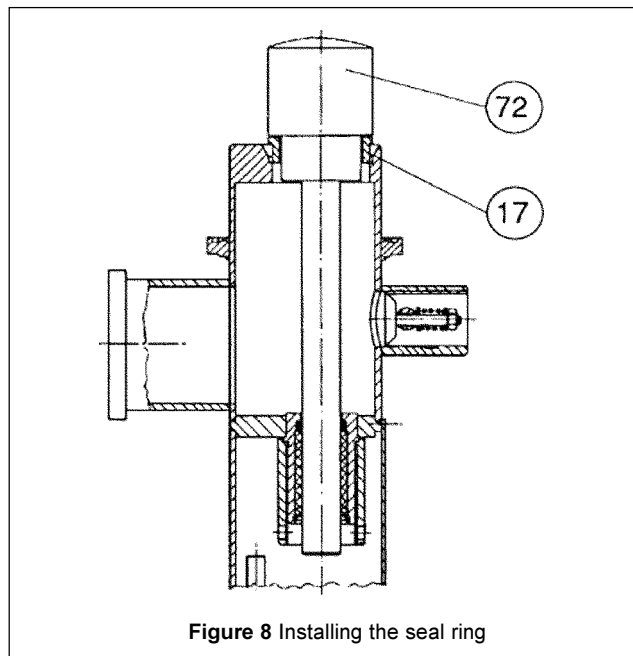

Figure 8 Installing the seal ring
### 4.3. Installing the seal ring (17, Fig. 8)
- Place the seal ring (17) with the locking ring in a freezer; the seal ring should preferably be attached to the mounting tool. Allow to cool to at least -10°C.
- Attach the sampler to a vise, in the position shown in Fig. 8.